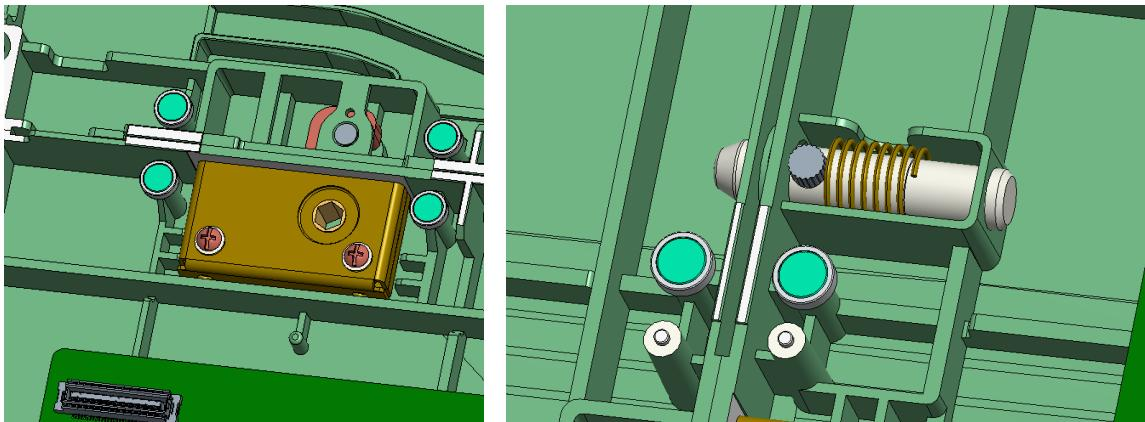
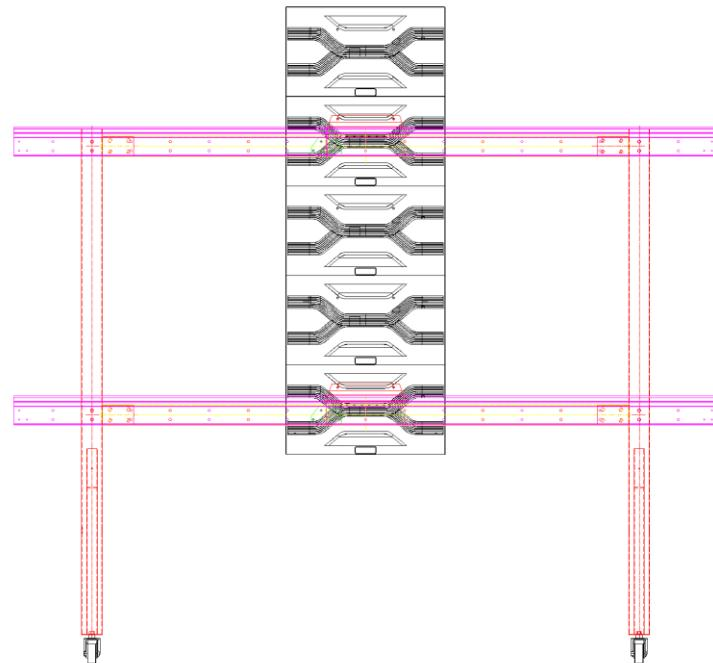
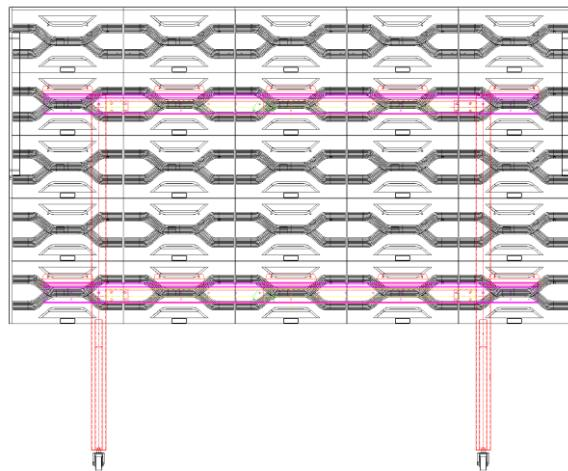

Figure 11
Figure 12: Viewed from back(Suitable for 135 inches)
Figure 13: Viewed from back
1. When individual columns are complete, hang them on the Hanging Bar starting with the center column (see Figure 12& Figure 13) and adding additional columns to either side moving outward. Place columns in position next to each other with the spring latches of one column aligned to the holes of the adjacent column (see Figure 11).